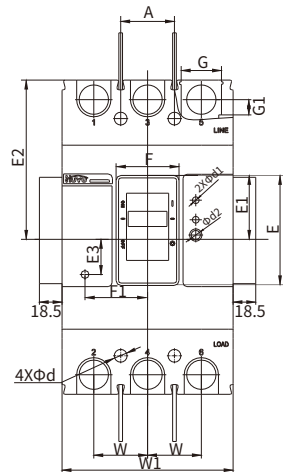

Figure 13
- See Figure 13 and Table 9 for EXM3L-125, 160, 250, 400, 630 and 800 front panel wiring outlines and mounting dimensions